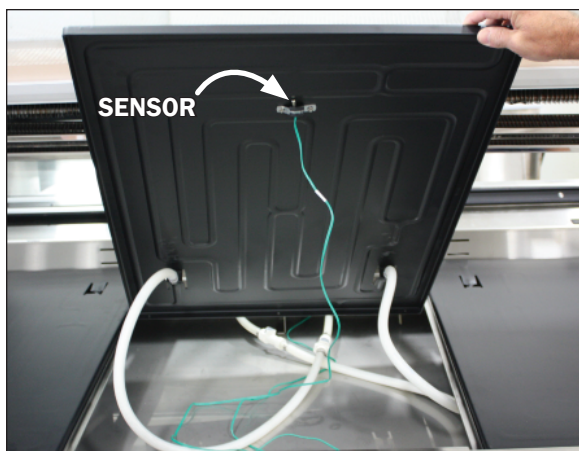

Fig. 3 Coolgenix pan sensor
1. The center deck pan and shelving (if applicable) have a pan sensor connected to the underside (Fig. 3). Not every pan will have this sensor. Check the underside of each pan to see which pan(s) have this sensor.